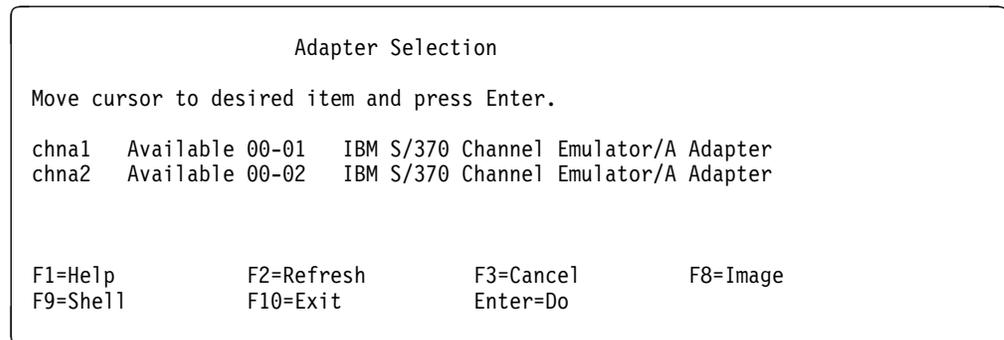

Figure 25. SMIT Adapter Selection Panel
3. Select Load Driver onto S/370 Channel Emulator/A Adapter. The Adapter Selection panel (Figure 25 ) displays.